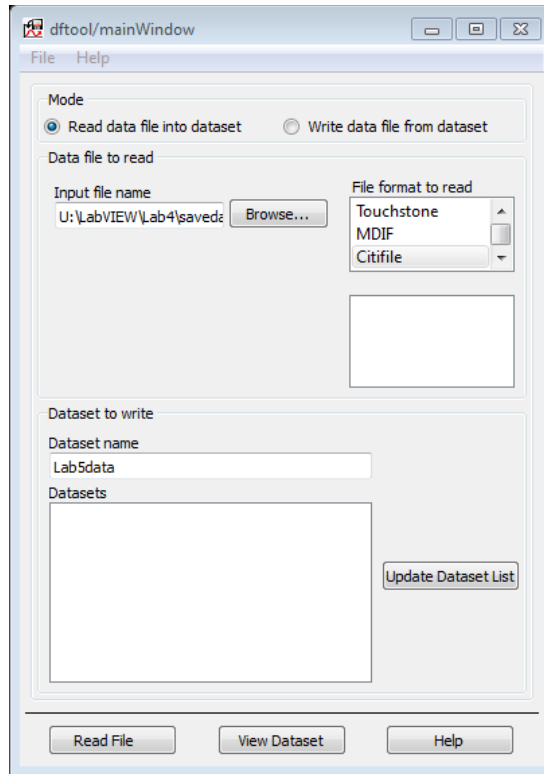

Figure 22: Data File Tool Window.
3. On this new display, click “Tools” and select “Data File Tool...” The Data File Tool will pop up as well as the simulation status screen (the box with the options: File, Simulation/Synthesis, Text, Window). Ignore the simulation status screen for now and click on the data file window, shown in Figure 22.
4. Click on “Browse...” and select the CITIfile you generated in Appendix 2 and click on Citifile. Then write “Lab2data” in the “Dataset name” field, as shown in Figure 22 and press “Read File.” The simulation tab should say “File read was successful.” Close the data file tool window.